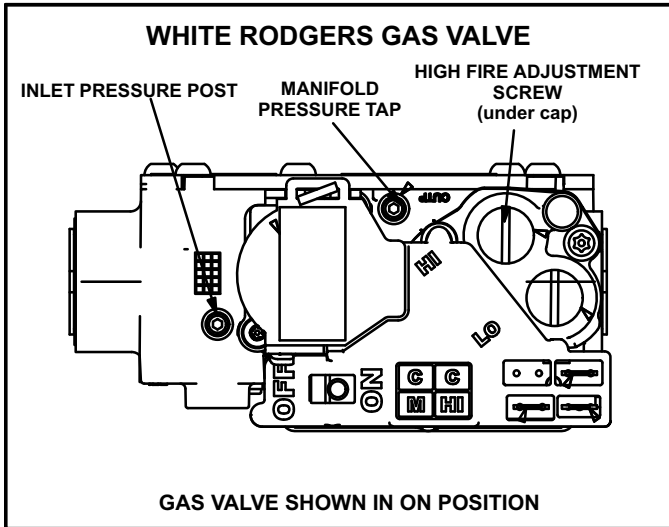
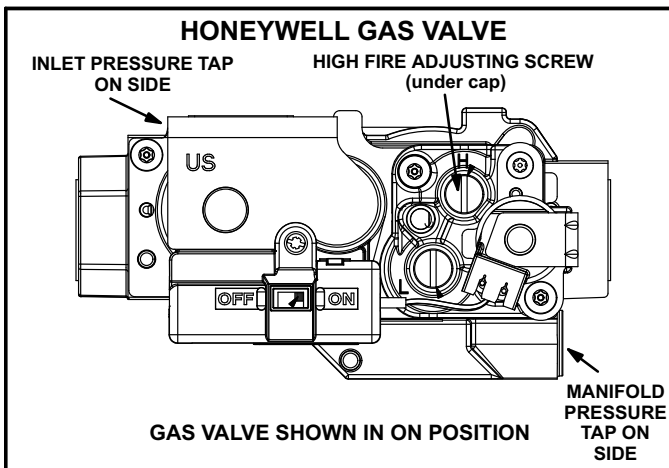

FIGURE 16
FIGURE 17
The valve (figure 16 or 17) is internally redundant to assure safety shut-off. If the gas valve must be replaced, the same type valve must be used.
- 6 - Turn switch on gas valve to **OFF**. Do not force. See figure 16 or 17.
- 8 - Turn switch on gas valve to **ON**. Do not force. See figure 16 or 17.
- 4 - Turn switch on gas valve to **OFF**. Do not force. See figure 16 or 17.
An inlet post located on the gas valve provides access to the supply pressure. See figure 16. Back out the 3/32 hex screw one turn, connect a piece of 5/16 tubing and connect to a manometer to measure supply pressure. See table 20 for supply line pressure.
- 1 - Connect test gauge to manifold pressure post (figure 16) or tap (figure 17) on gas valve.
- 4 - If necessary, make adjustments. Figures 16 and 17 show location of high fire and low fire adjustment screw.